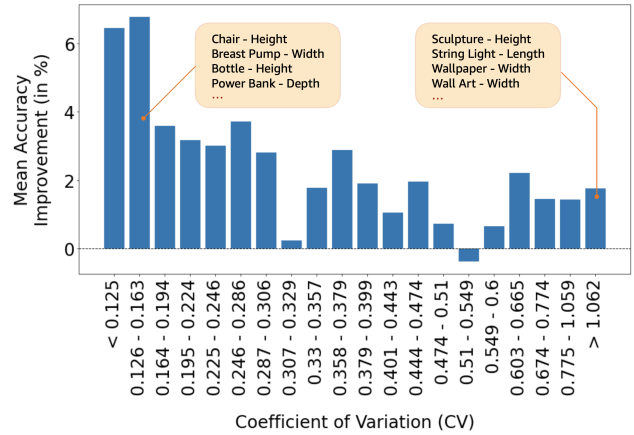

Figure 2. The mean accuracy improvement when Single box classifier uses S.I. compared to when it does not use S.I.
Statistical inference might be useful for products with less dimensional variations like bed or sofa, and not as useful for products which can often vary in shape and size. To understand this effect, we plot Figure 2 and find that there is significant improvement ($> 3\%$) in performance for product types with lower coefficient of variation (CV). Even for categories which has higher CV, there is significant ($> 1\%$) improvement when statistical inference is considered. Hence we can infer that it is a beneficial addition to the model's input.